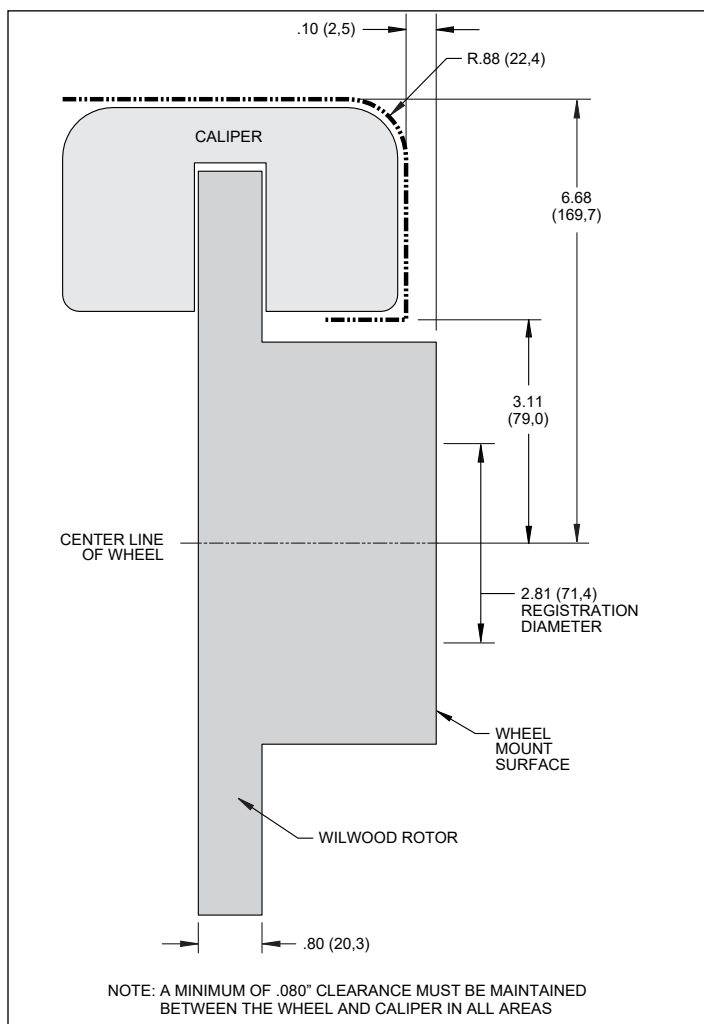

Figure 2. Wheel Clearance Diagram, p/n 140-17653
- Review the appropriate wheel clearance diagram for the kit you have purchased (Figures 2 or 3, page 3) to verify that there is adequate clearance with the wheels you will be using with the installation.
Verify your wheel clearance using Figures 2 or 3.